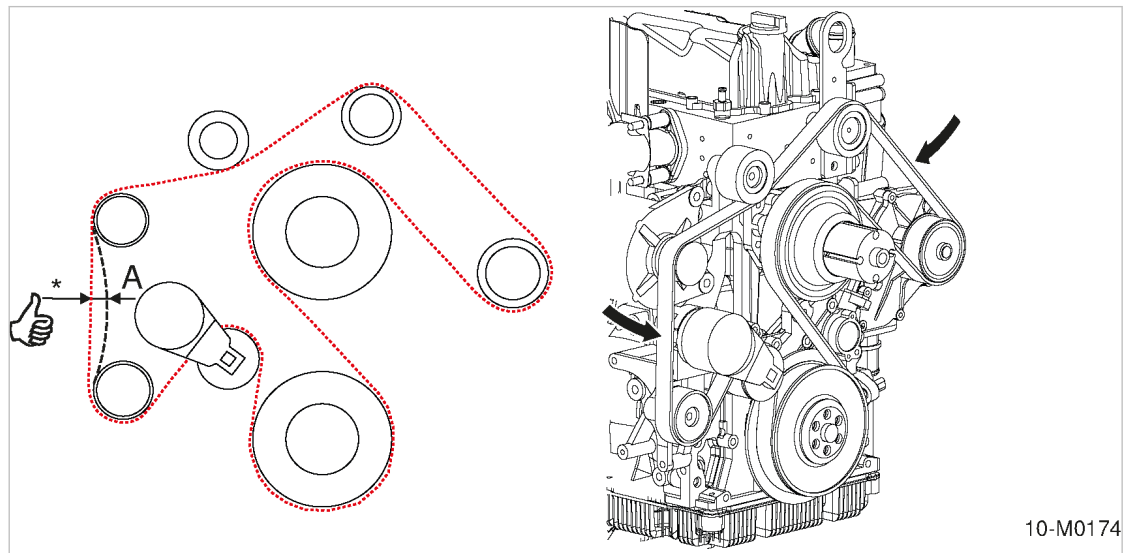

Fig. 44 Checking the belt tension by hand
1. Check the belt tension by hand (see Fig. 44).